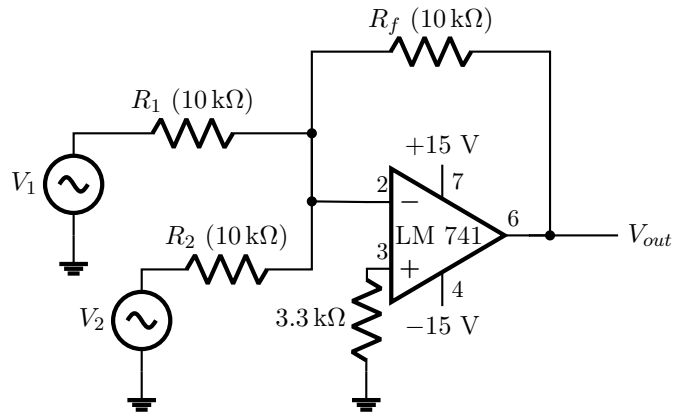

Figure 7.1: Inverting Summing Amplifier (Adder) Circuit Diagram
The schematics for the Inverting Adder and Subtractor are shown in Figures 7.1 and 7.2.
1. Wire the IC 741 on the breadboard according to Figure 7.1. Connect $\pm 15 \text{ V}$ power supplies.